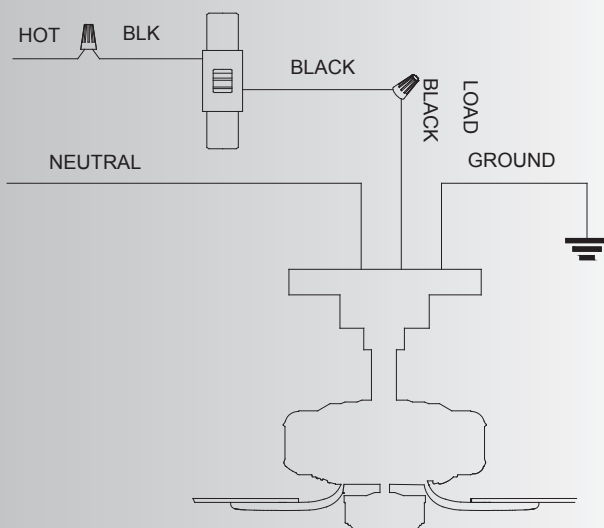

Fig. 24
**Step 1.** Remove faceplate and screws from existing wall control (if present). Pull control out from the wall box. Determine the "hot" wire and "load" wire and disconnect these wires from control (Fig. 24). Do not attempt to disconnect any wires not already connected to existing control.